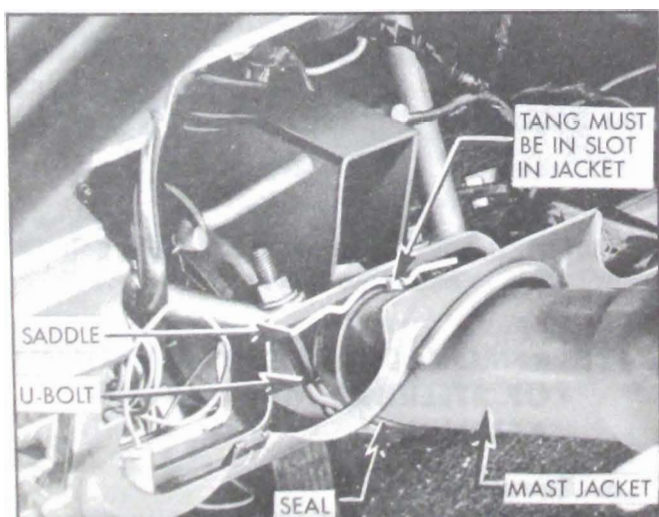

Figure 8-74—Mast Jacket Attachment - Upper End
4. Remove the U-bolt and mast jacket saddle (9/16" deep socket). See Figure 8-74.
4. Place tang of mast jacket saddle in slot in jacket and tighten U-bolt nuts. See Figure 8-74.